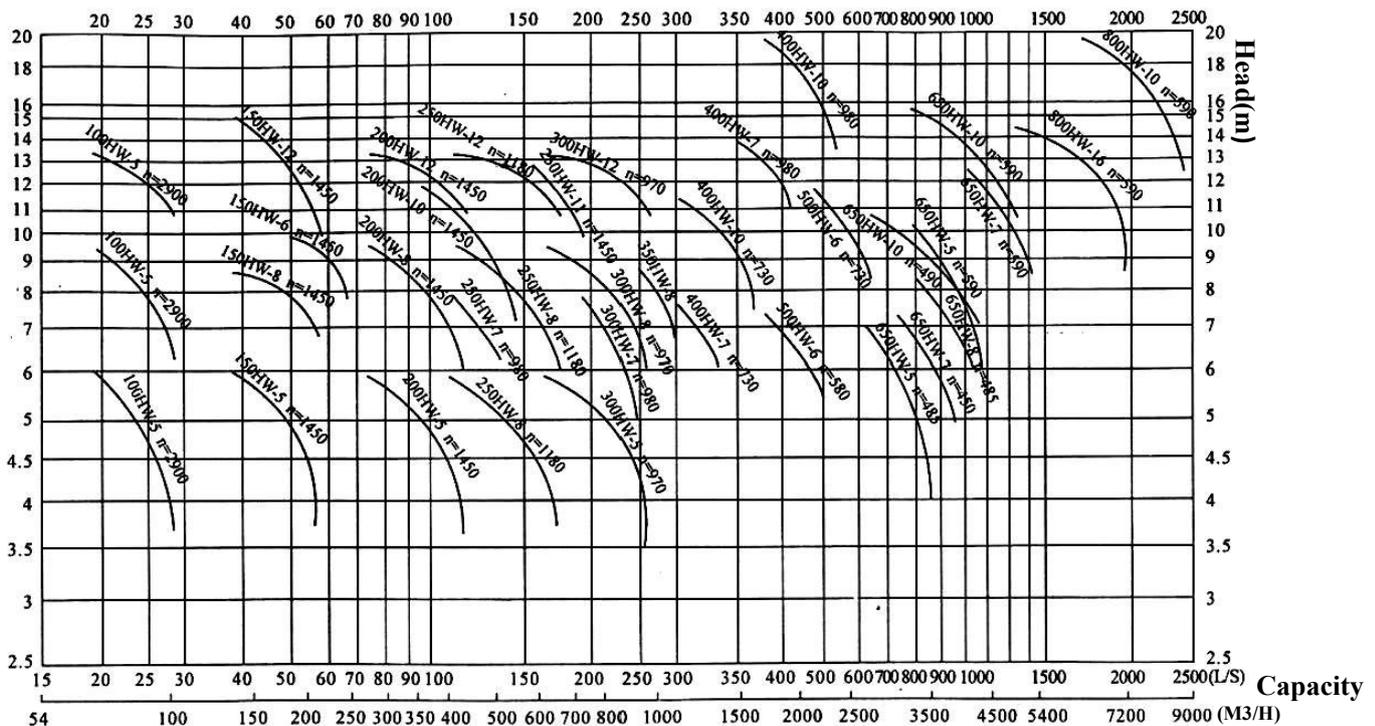

Figure3 HW Mixed-flow Pump Quick Selection Chart
1. Pump performance: See the HW pump flow head curve (Figure 3) and performance table (Table 3, Table 4 and Table 5)